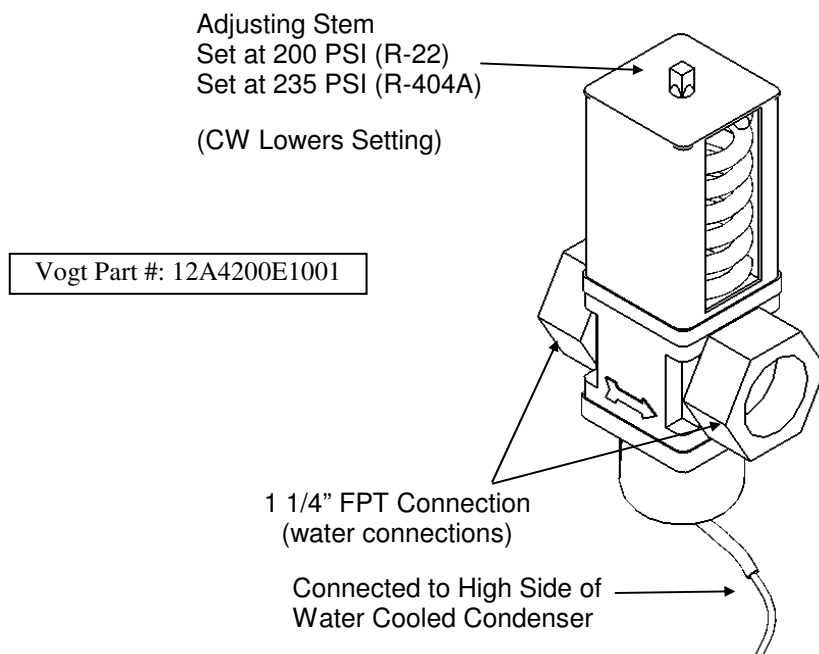
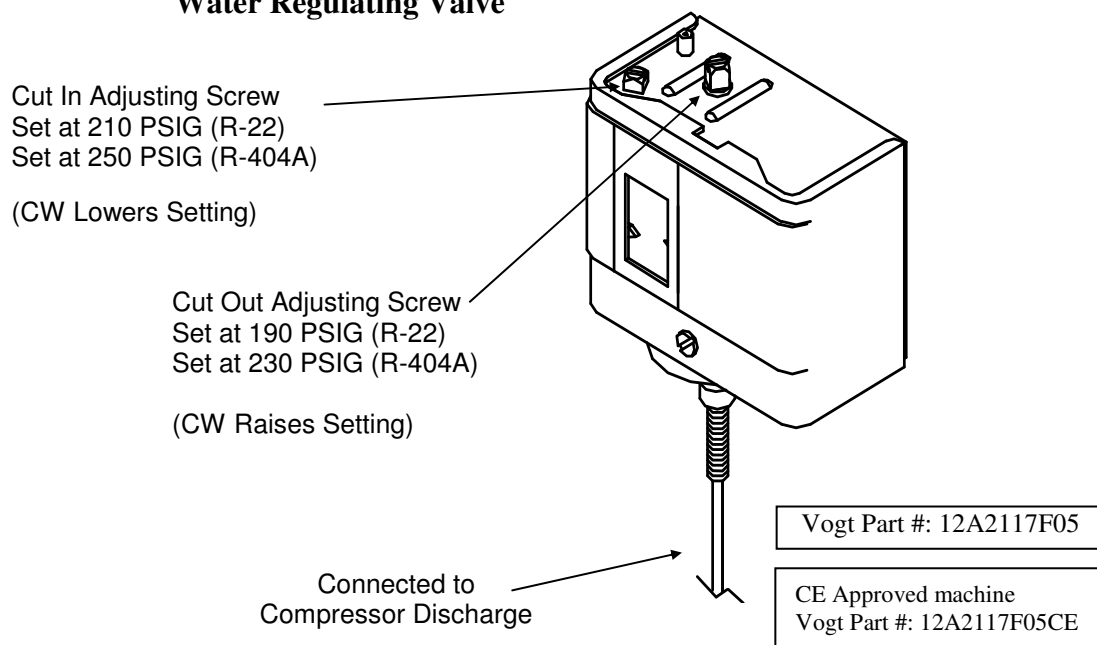

FIGURE 9-5A
FIGURE 9-5B
Insufficient heat for thawing because of low condensing pressure, non-condensables (usually air) in system, low refrigerant charge, or thaw gas pressure switch adjusted too low.	The head pressure should be maintained at approximately 210 PSIG for R-22 or 250 PSIG for R-404a, which relates to 105 °F (37.8 C). This is done by a water-regulating valve (water-cooled units) FIGURE 9-5A, Section 9, or a Fan cycling switch (air-cooled units) FIGURE 9-5B, Section 9. If non-condensables are present with the refrigerant, the saturated temperature will not relate to the pressure reading at the receiver. The refrigerant level in the receiver should be near the operating mark at the end of a freezing cycle to provide enough volume for harvesting. (1" = approx. 11 lbs. of R-22 or R-404a).
Water-Cooled Units. A water regulating valve (FIGURE 9-5A) located in the condenser water inlet line is used to control the water flow through the condenser. This valve should be adjusted to maintain a head pressure of 195 psig for R-22 and 235 psig for R-404a. Increasing the water flow lowers the head pressure and decreasing the water flow raises the head pressure. The valve is adjusted during the factory test. The valve stem should not be opened as far as it will go or the valve will not close fully when the head pressure drops below its setting.
Air-Cooled Units. The condenser fan switch mounted to the frame (lower right side) (FIGURE 9-5B) (CPS) is used to regulate the head pressure. This is an adjustable pressure switch located on the right-hand front of machine. It controls the operation of the condenser fan motor(s) through a contactor (FC) (FIGURE 6-2) located in the control panel. The switch is set to cycle the fan motor(s) “On” at 210 psig and “Off” at 190 psig for R-22 and “On” at 250 psig and “Off” at 230 psig for R-404a. Higher settings may be necessary for 0°F and below ambient conditions to assure there is enough warm gas for ice harvesting.